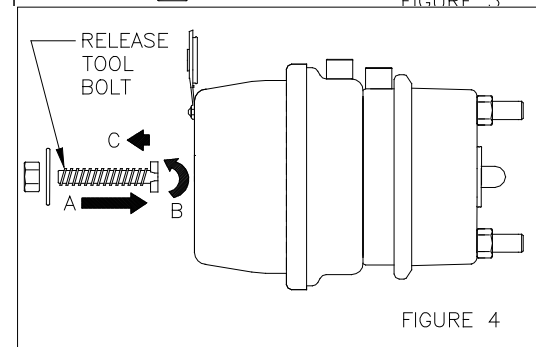

FIGURE 4
4. Insert the release tool bolt through the access hole, all the way into the pressure plate, inside the spring housing. (Figure 4, Arrow A.)
5. Make sure you engage the release tool bolt in the pressure plate by turning the bolt 1/4 turn clockwise and pulling outward. If the release bolt is engaged properly on the pressure plate, it will not turn more than 1/4 turn clockwise and will not pull outward more than 3/4 inch. (19mm). (Figure 4, Arrows B and C.)